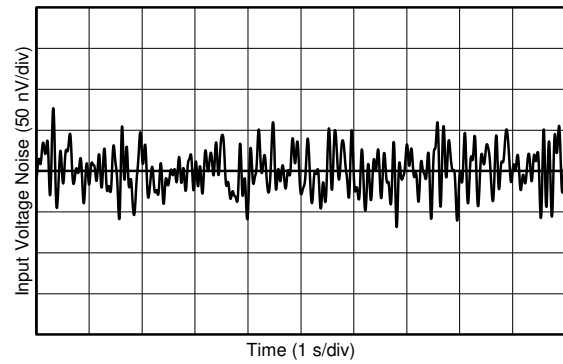

Figure 6-16. 0.1-Hz to 10-Hz Noise
0.1-Hz to 10-Hz Noise	Figure 6-16